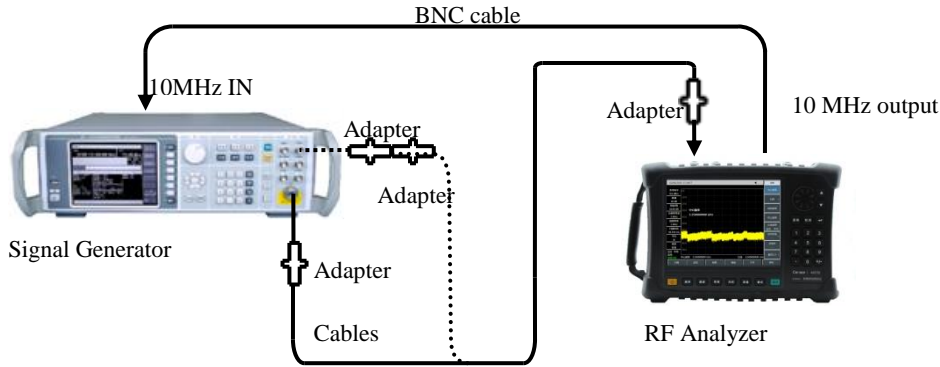

Figure 16-7 Frequency Range Test
- a) Connect the test equipment by following the dotted line in Figure 16-7. The instrument is used to provide reference frequencies for the 1464C composite signal generator. The low-frequency output port of the composite signal generator is connected to the radio frequency input of the instrument.
- d) As shown in the solid line of Figure 16-7, connect the radio frequency output of the composite signal generator 1461 to the radio frequency input of the instrument with adapters and cables . Set the output frequency of the signal generator to 6.5 GHz, the modulation function to off, and the output power to -10 dBm.